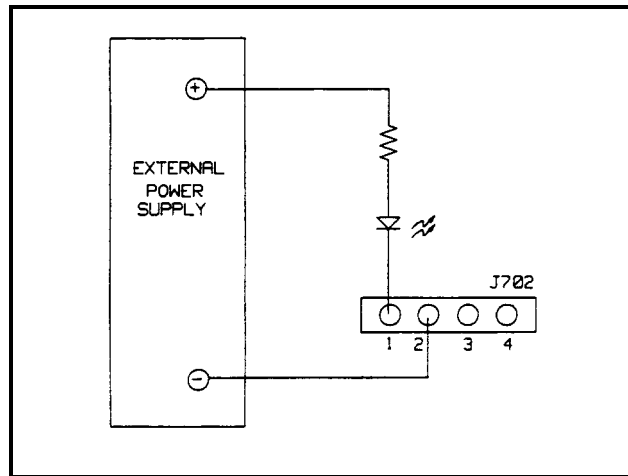

Figure 6a. FLT Test Setup
- a. Connect the LED, resistor, and external 5V power supply to pins 1 and 2 of J702 as shown in Figure 6a, and turn on the 662x power supply. The LED should be off.